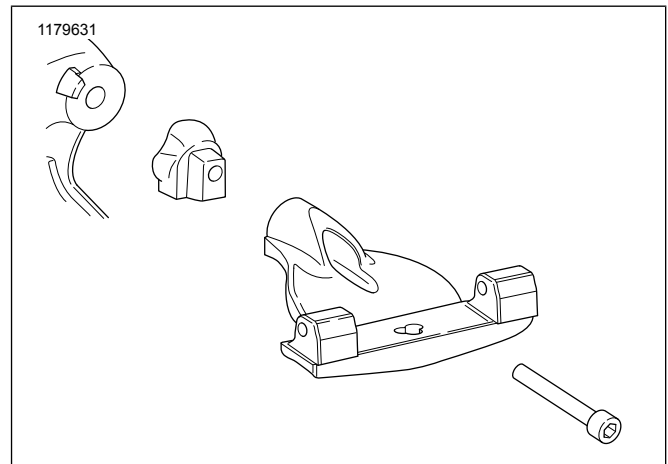
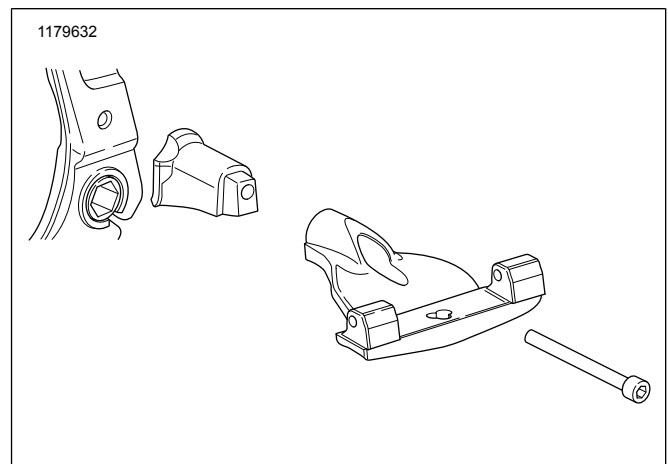

Figure 1. Right Side Installation: FXBR/S, FXBB, FLFB/S, FLSL, FXLR
Figure 2. Right Side Installation: FLSB, FLHC, FLDE
2. **For FXBR/S, FXBB, FLFB/S, FLSL and FXLR models**, see Figure 1. **For FLSB, FLHC and FLDE models**, see Figure 2. Position footboard mount. Apply Loctite 243 threadlocker to the socket head capscrew and insert it through the floor board assembly and proper adapter, and into the mounting hole.